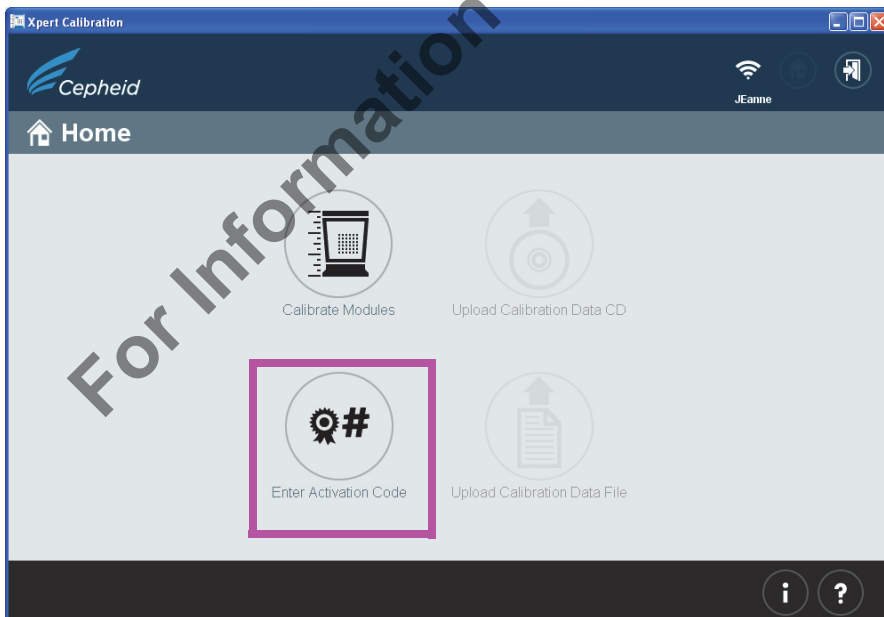
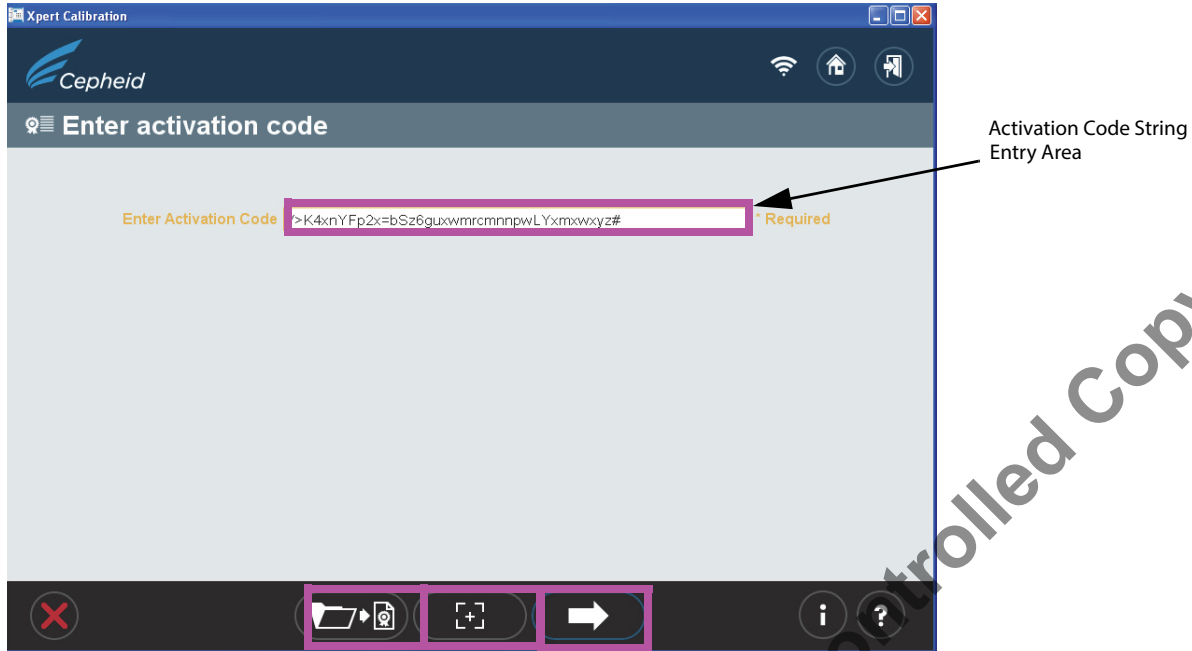

Figure 41. Home Screen, showing Enter Activation Code Button
Figure 42. Enter activation code screen
5. Click on the **Enter Activation Code** button. See Figure 41. The Enter activation code screen will appear. See Figure 42.
- c. Copy and paste the activation code string into the **Enter activation code** screen from the screen's display. The activation code string is visible on either Figure 42 and Figure 43.